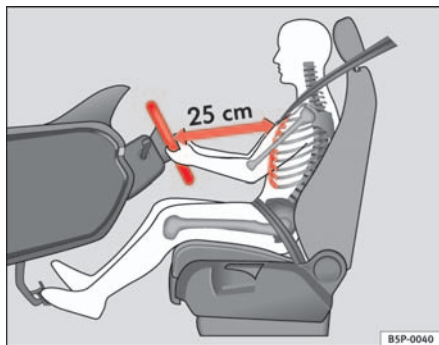

Fig. 1 The proper distance between driver and steering wheel
- Adjust the steering wheel so that there is a distance of at least 25 cm between the steering wheel and the centre of your chest ⇒ **fig. 1**.
- Adjust the driver's seat so that there is at least 25 cm distance between the centre of the chest and the hub of the steering wheel ⇒ page 9, fig. 1. If you are sitting nearer than 25 cm, the airbag system cannot protect you properly.